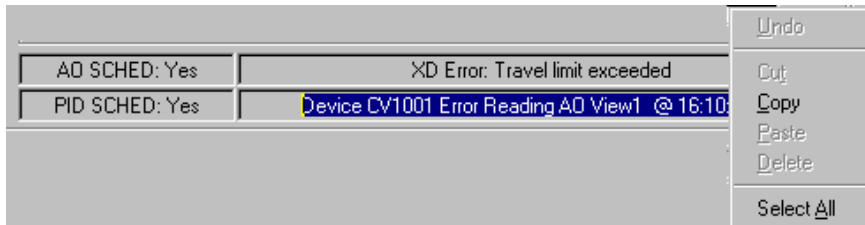

Figure 16.4 Copy the Error Log
- Step 1 Right click on the error log text box. A menu box appears (Figure 16.4).